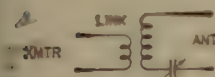

FIG. 1 ZEPP
-Yes. See figures 1 and 2. (Coil and condenser combination to tune to band.)